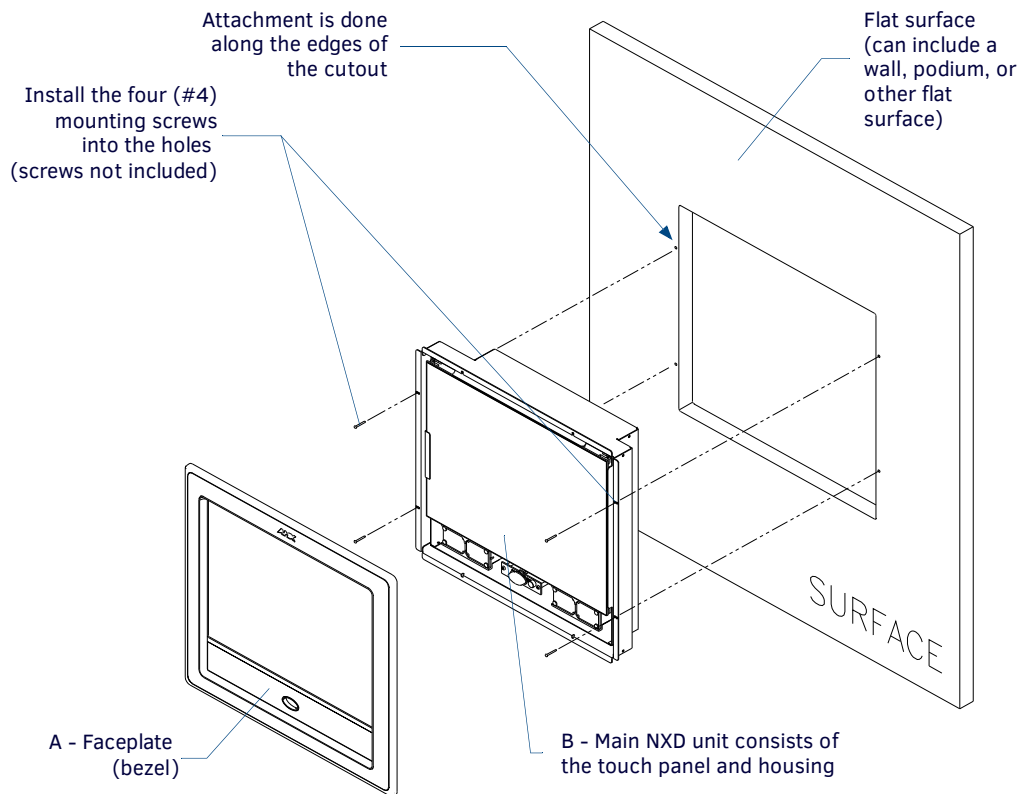

FIG. 45 Wall Mount panel installation configuration for flat/solid surfaces
- Remove the magnetic faceplate/bezel (**A** in FIG. 45) from the main NXD unit (**B** in FIG. 45) by gripping the faceplate and pulling with gentle outward force.
10. Reinstall the magnetic faceplate (**A** in FIG. 45) back onto the main NXD unit (**B** in FIG. 45). Make sure to align the Microphone, Light, and PIR Motion sensor locations to their respective openings on the front bezel/faceplate.